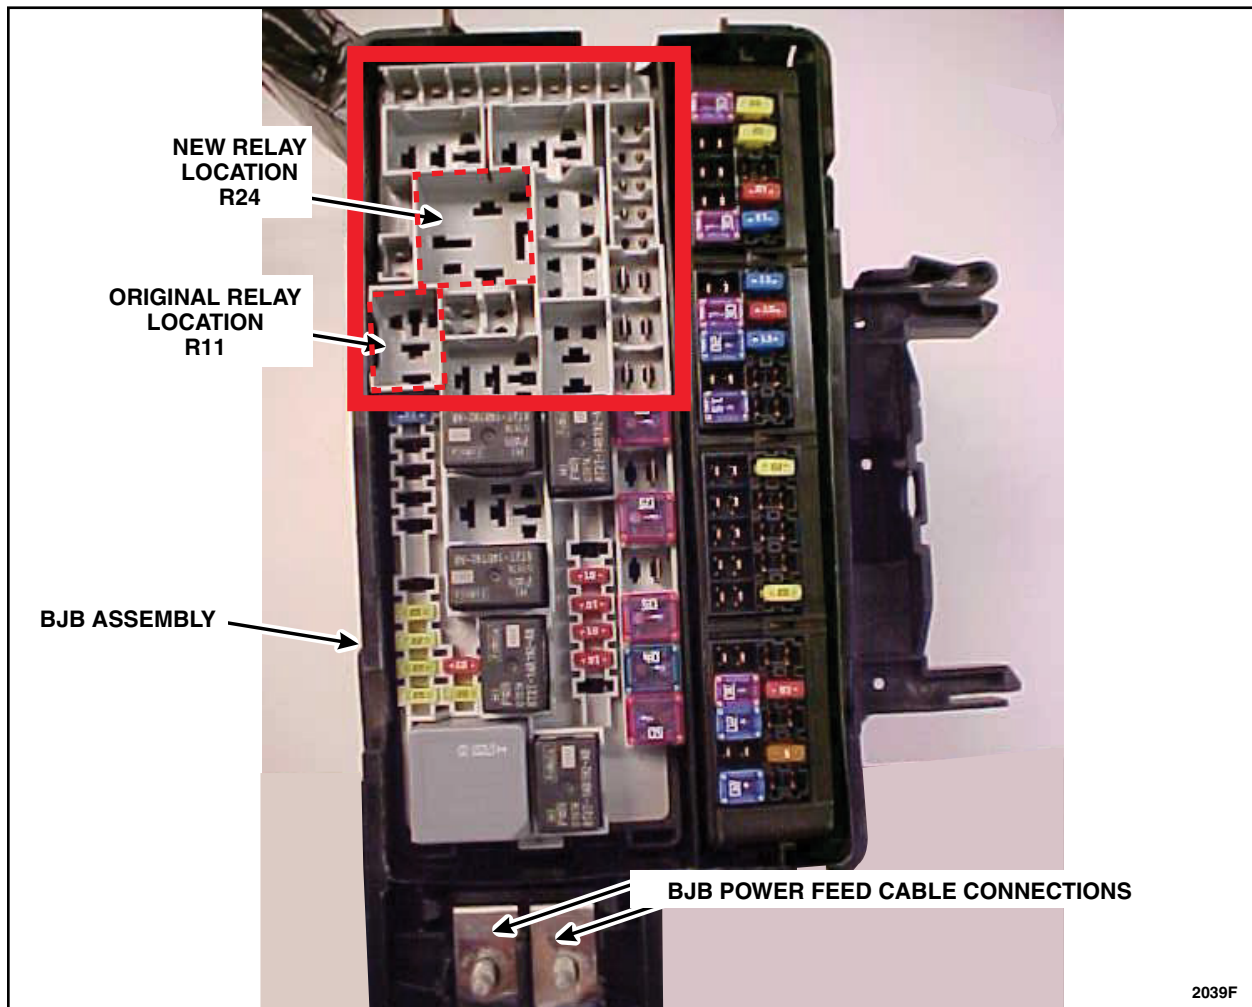

FIGURE 5
4. Record the amperage and location of the fuses and location of the relay's in the area shown in Figure 5. Then, remove all of the fuses and relay's within the red boxed area shown. See Figure 5.